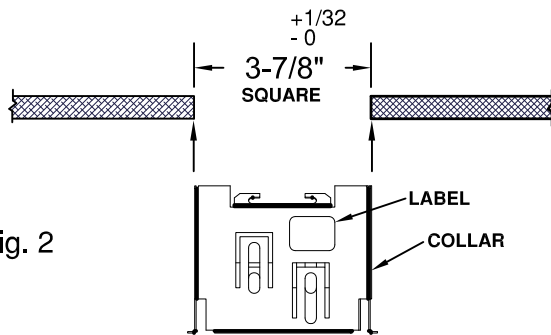

Fig. 2
2. For Wall Wash Fixtures: Verify the correct orientation of Torsion Spring Retainers in relation to the wall. The collar is labeled for correct position. **See Fig. 2**